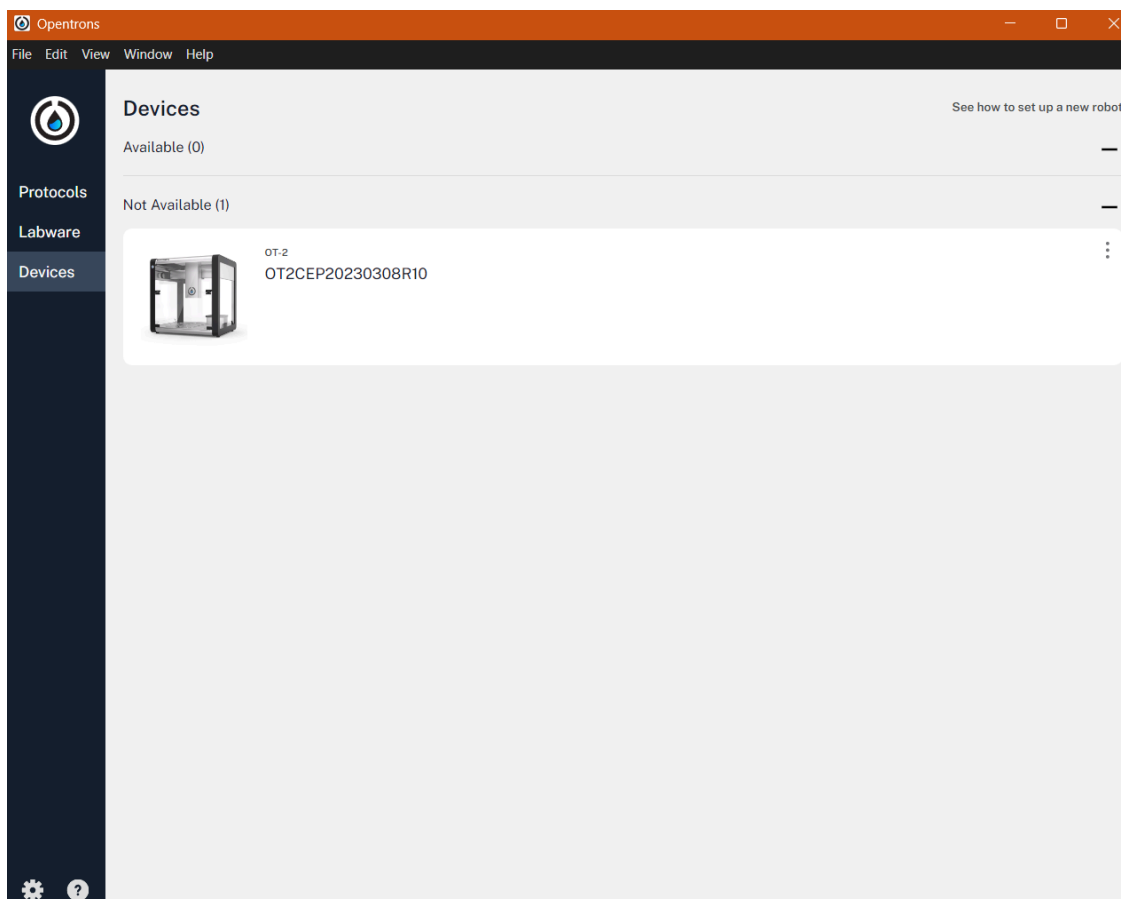

Figure 1. Opentrons software, specifically the devices tab where the Opentrons hardware can be connected to your PC.
8.1.3 Go to the 'Devices tab' within the software and connect to our Opentrols hardware (Figure 1).